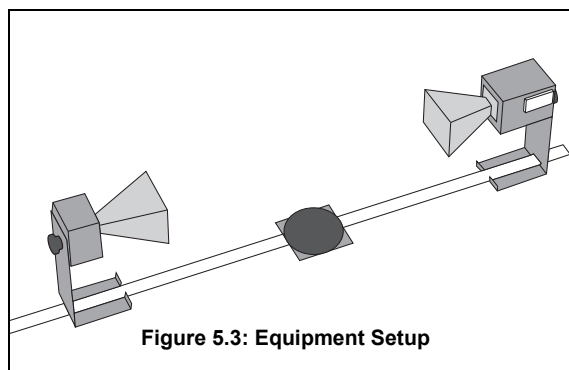

Figure 5.3: Equipment Setup
1. Arrange the equipment as shown in Figure 5.3 and adjust the Receiver controls for nearly full-scale meter deflection.